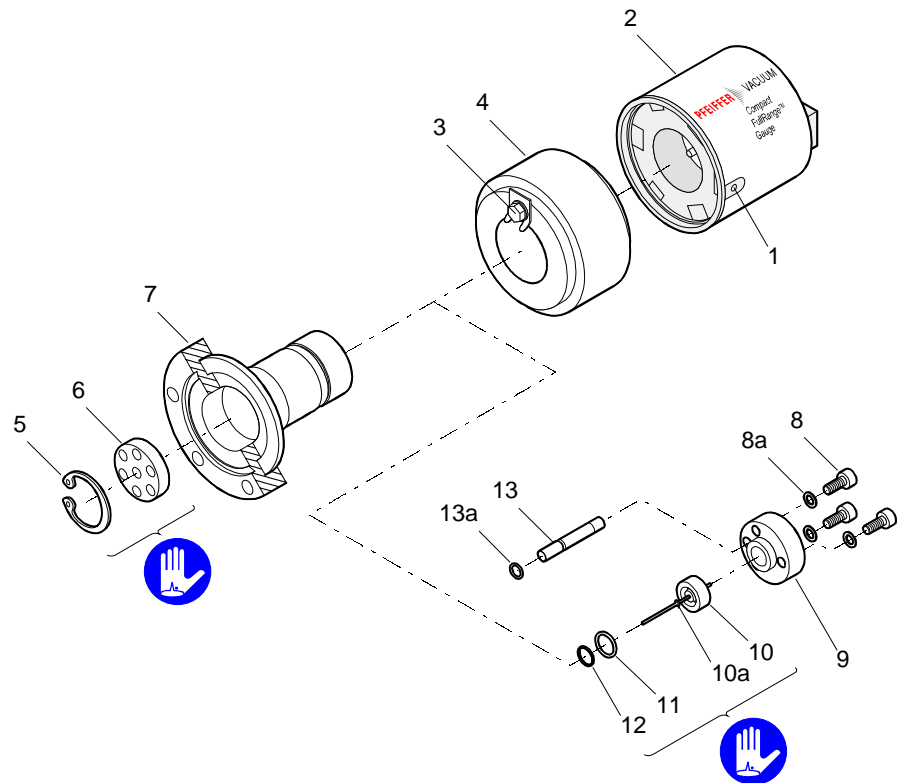

Figure 2
- Unfasten the hexagon socket set screw (1) on the side of the electronics unit (2) (→ Figure 2).
- a) Remove the used ignition aid (10a) with pliers (→ Figure 2).
- a) Insert the FPM seal (11) with the support ring (12) centered into the measuring chamber (7). The sealing surface, seal, and ceramic part must be clean (→ Figure 2).
- b) Carefully insert the anode (10) incl. ignition aid (10a) into the measuring chamber.
- c) Insert the Pirani element (13) with the FPM seal (13a) slid over it into the corresponding bore hole.
- d) Carefully place the pressure piece (9) on the measuring chamber and tighten them with the three hexagon socket screws (8) incl. lock washers (8a) uniformly until the stop position is reached.
- g) Slide the polarity insert (6) into the measuring chamber until the mechanical stop is reached.
- h) Place the circlip (5) snugly fitting on the polarity insert.